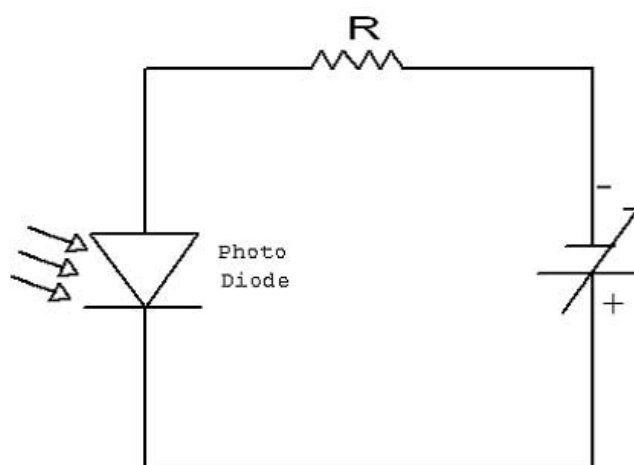

Figure 9.1: Circuit of Photodiode
1. Rig up the circuit as per the connections in diagram as shown in figure 9.1.